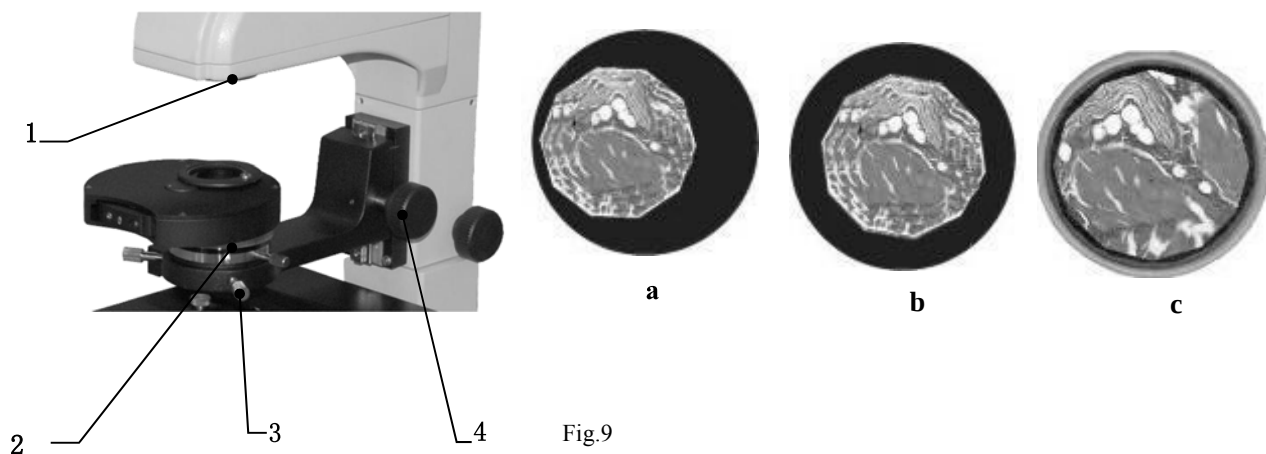

Fig.9
(1) Inspect the center of field diaphragm
- Turn the 10X plan objective into optical path, open the aperture diaphragm 2, and close the field diaphragm 1, when a light spot as shown in Fig.9-a can be seen in the field of view. If the edge of the light spot is unclear, it can be made clear by adjusting the condenser height control knob 3.
- If the light spot deviates from the center of the field of view, as shown in Fig. 9-a, the condenser center (center of aperture diaphragm) must be adjusted. The center of the light spot can coincide with that of the field of view by adjusting two the centering screws 3 of the condenser holder, as shown in Fig.9-b.
- Open field diaphragm, so that the observed specimen image fills the visual field, as shown in Fig.9-c.